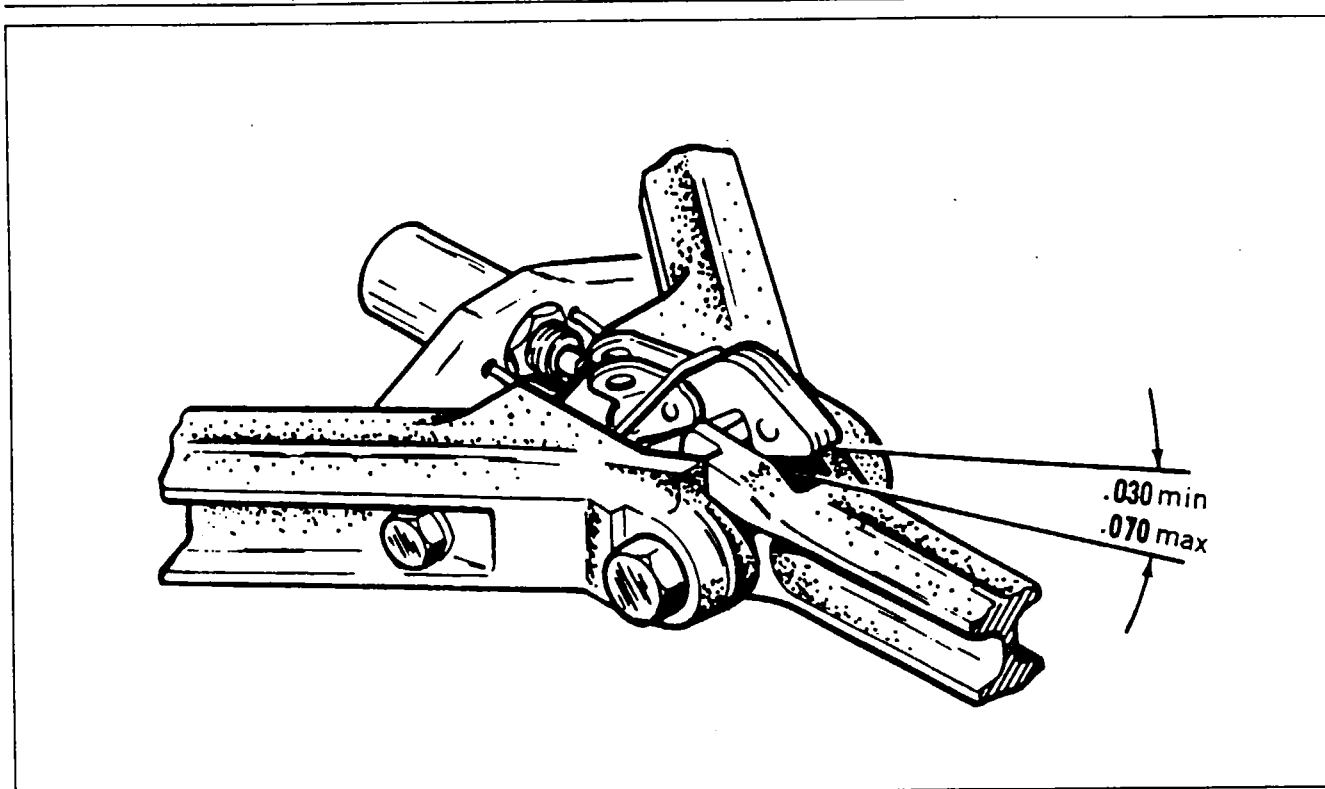

Figure 32-26. Adjusting Main Gear Down Limit Switch
ADJUSTMENT OF MAIN GEAR DOWN LIMIT SWITCH. (Refer to Figure 32-26.)
- B. With hook raised, place a .070 of an inch wire feeler gauge between the hook and bottom surface of the slot in the side brace link. (Refer to Figure 32-26.)